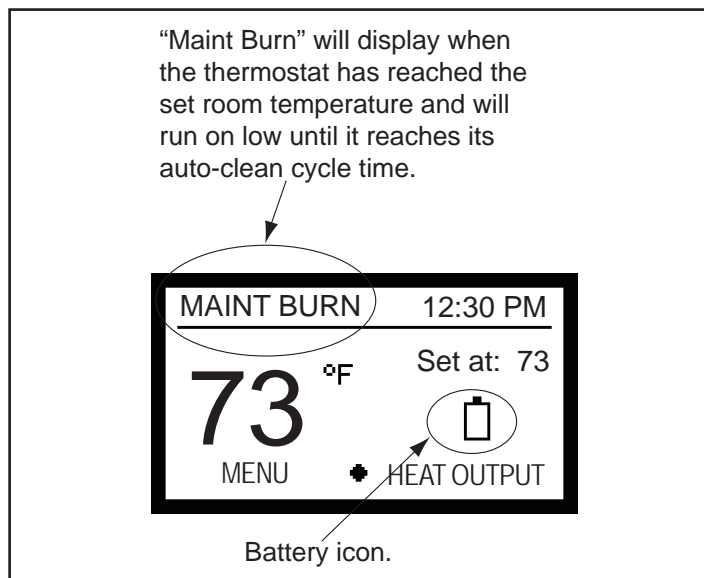

Figure 10.2
- A battery icon appears on your wall control to let you know you are now operating on battery power. **Figure 10.2.**
The wall control will display the battery icon when operating in the battery back-up mode. **Figure 10.2**